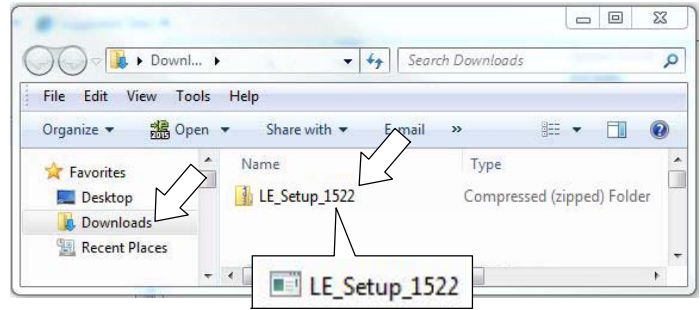

Fig. 18
- Open the “Downloads” folder and locate the “LE_Setup_xxxx” zip file. Open the zip file and double click on the “LE_Setup_xxx” file to install the application software on your computer (Figure 18). Follow instructions on screen to install.
4. Open the “Downloads” folder and locate the “LE_Setup_xxxx” zip file. Open the zip file and double click on the “LE_Setup_xxx” file to install the application software on your computer (Figure 18). Follow instructions on screen to install.